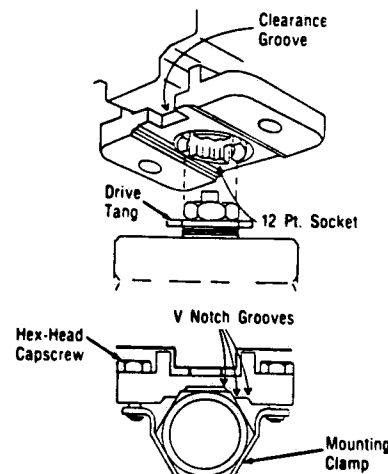

Figure 7-15. PNEUMATIC ACTUATOR REASSEMBLY.
2. Mount the actuator/bracket assembly on the valve so that the 12 point socket engages the stem nut and so the appropriate shaft notch engages the drive key lug. Check the engagement of the valve body in the bracket 'V' notch grooves to ensure that the assembly sits squarely on the valve. When mounting an actuator to a 1/4- or 3/8-inch 86 series valve, position the bracket so the valve end plug is under the clearance groove (see Figure 7-15).